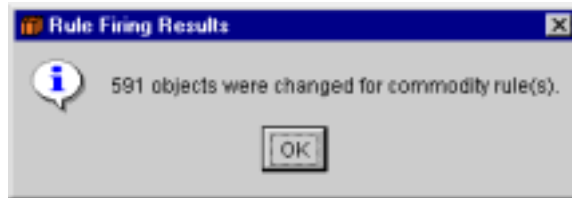

Figure 5.212 Rule Firing Results Window
3. On the Execute Rules menu, click the Apply Commodity Rules command. After a moment, the Rule Firing Results window opens (Figure 5.212), which contains a message about how many objects were changed for commodity rule(s).